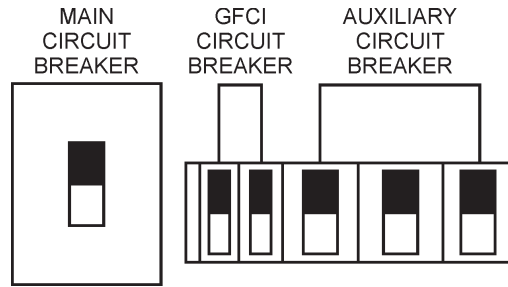

Figure 53. Main, Aux. and GFCI Circuit Breakers (ON)
18. Place the **main**, **GFCI**, and **aux.** circuit breakers in the **ON** position (Figure 53).